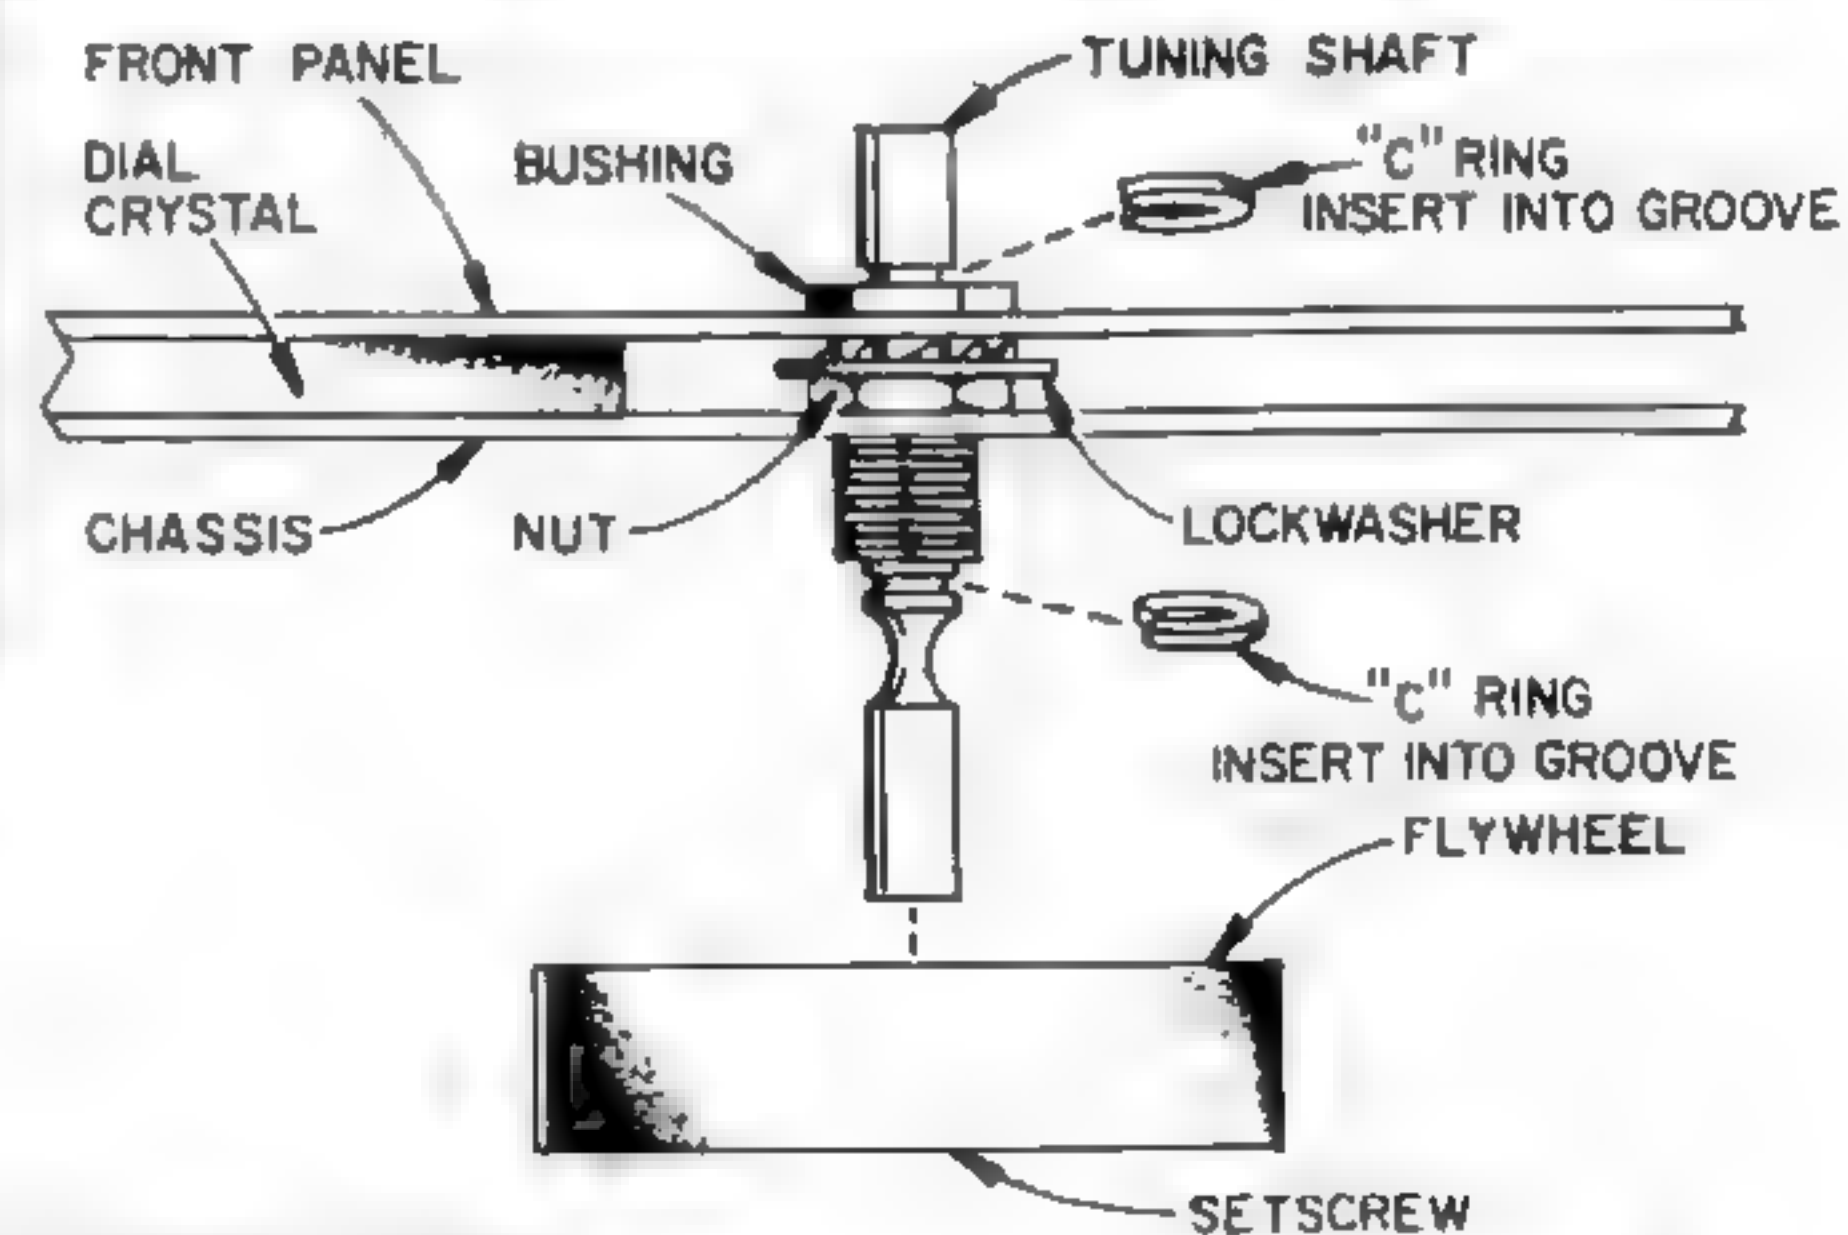

FIGURE 15. FLYWHEEL ASSEMBLY
- ☐ Flywheel and tuning shaft. Insert the tuning shaft into the bushing as shown in Figure 15. Fasten in place by crimping a "C" ring on the front panel side of the bushing. Fasten the flywheel in place by tightening with a setscrew. Crimp the other "C" ring as shown inside the chassis.